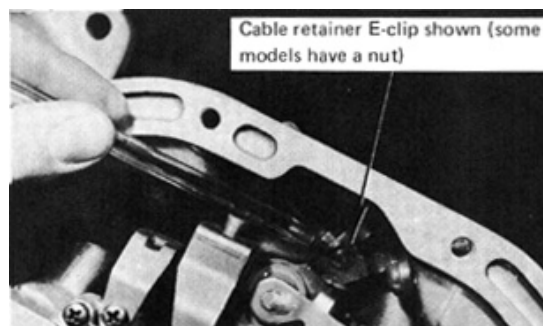

FIGURE 3
A. Shift cable: '62-'65 Torqueflites are shifted by a cable, which enters the case on the left side and engages an adapter link on the valve body. Remove the clip or nut that holds the cable adapter to the manual lever of the valve body. This will disconnect the cable from the valve body. (See Fig. 3.)